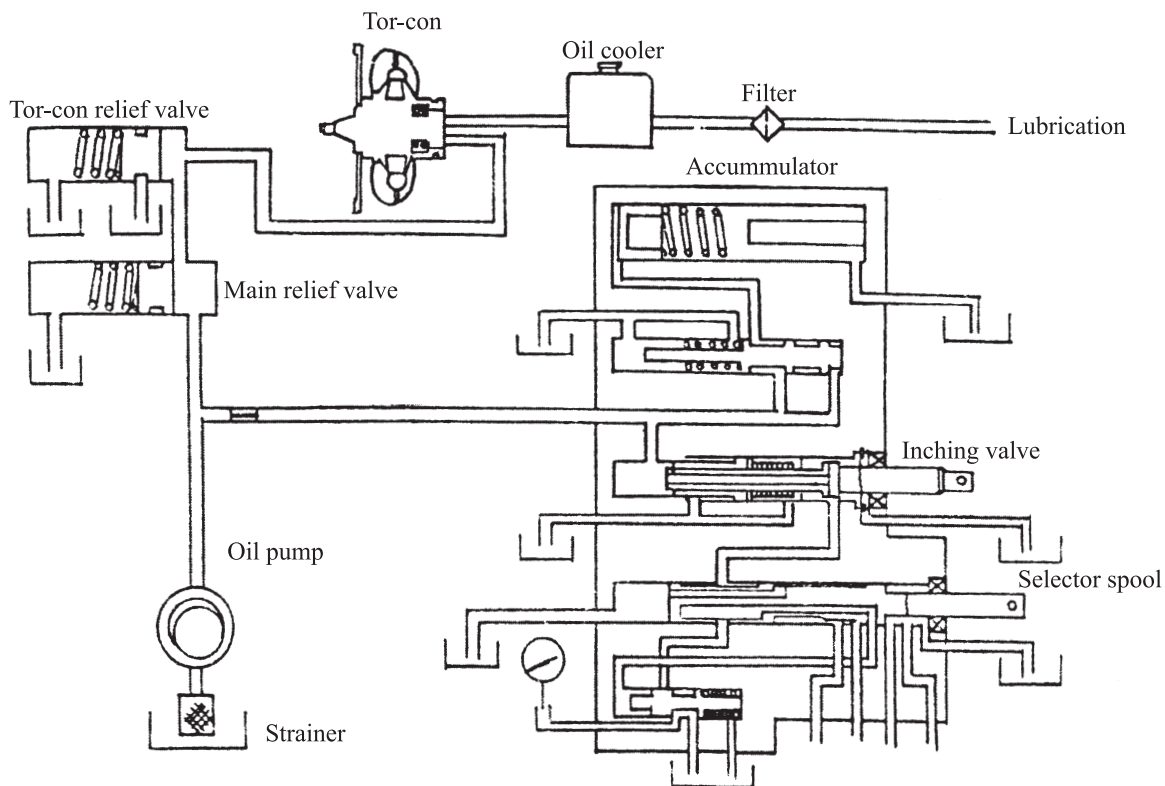

Fig. 3-7 Tor-con hydraulic system
3.6 Hydraulic circulation system(See fig. 3-7)